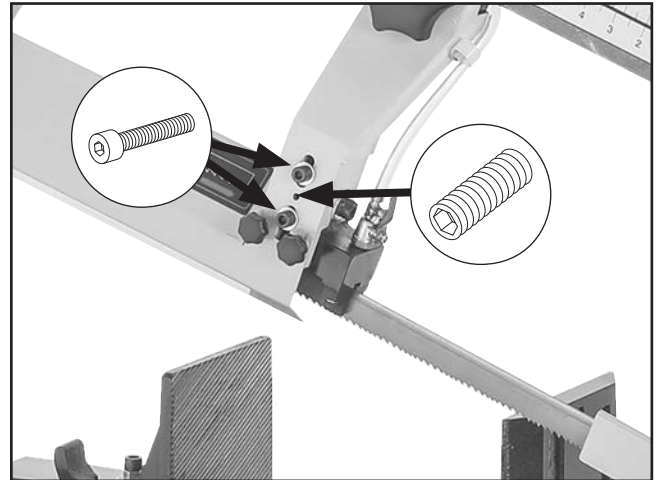

Figure 92. Fasteners for adjusting blade squareness.
4. Loosen (2) cap screws shown in **Figure 92** 1–2 turns on each blade guide assembly.
5. Adjust set screw shown in **Figure 92** until blade is square to vise table.